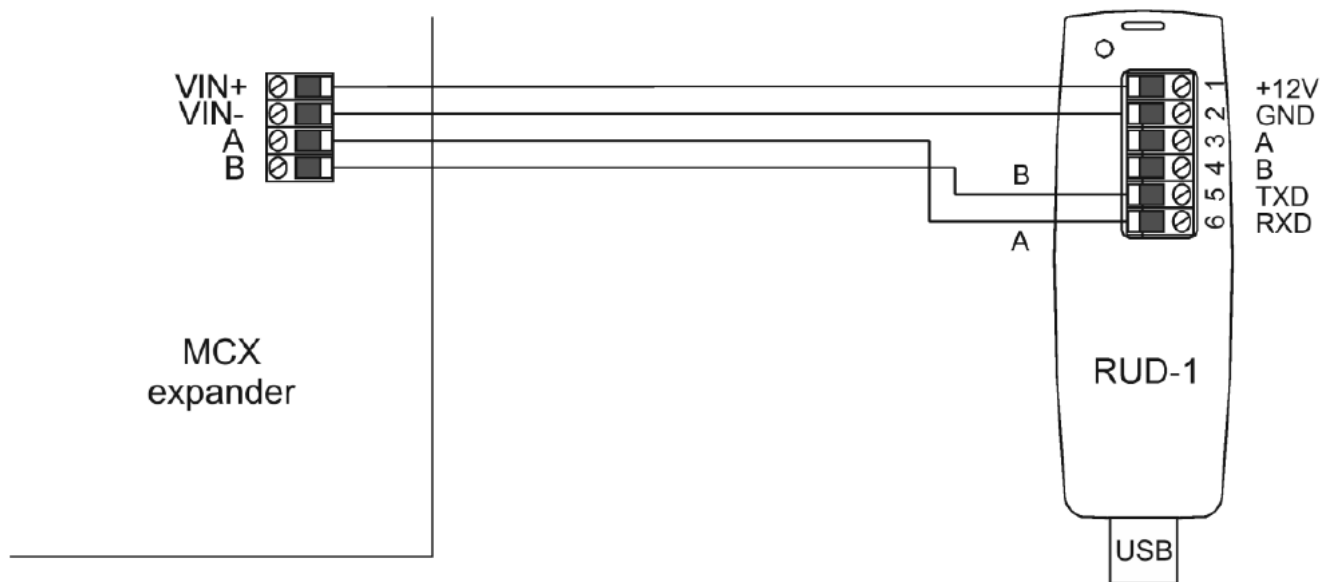

Fig. 8 Connection to RUD-1 interface (firmware update)
1. Connect the device to the RUD-1 interface (fig. 8) and connect the RUD-1 to the computer's USB port.